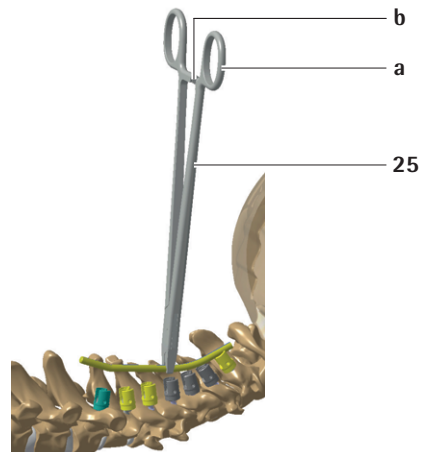

Fig. 28
- ▶ Insert the rod using the rod holding forceps **25** (FW076R), see Fig. 28.